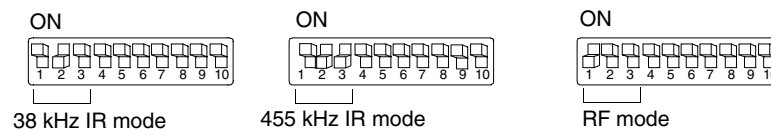

FIG. 5 DIP switch settings for IR and RF modes
The TXC+ series transmitters transmit IR or RF signals, according to how you set positions 1, 2, and 3 on the 10-position DIP switch (FIG. 5) located under the battery cover.
FIG. 5 shows the DIP switch settings for IR and RF modes. The transmitter can only be configured for either IR or RF, not both.
3. Verify channel code transmission range (FIG. 5 on page 5) matches the receiving control system's program.